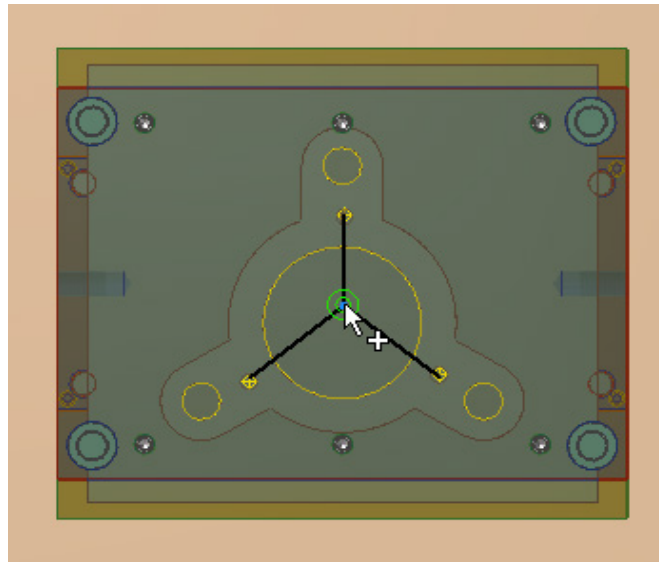

Figure 19-88 The point to be selected
4. Select the point in the modeling area where the three runners meet, refer to Figure 19-88; preview of the sprue bushing is displayed.